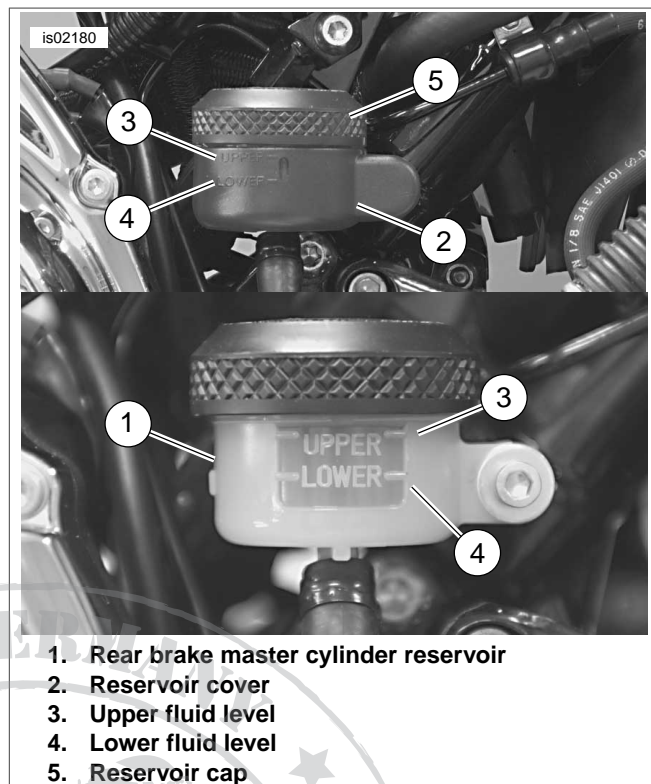

Figure 3. Rear Brake Master Cylinder Reservoir
1. See Figure 3. Remove rear master cylinder reservoir cap (5).
See Figure 3. Reservoir cover (2) may be removed from rear brake cylinder reservoir (1) to more easily verify fluid level in reservoir.
14. Position motorcycle upright (not resting on jiffy stand). See Figure 3. Check brake fluid level in master cylinder. Add enough brake fluid to reservoir until fluid reaches upper fluid level (3). Install master cylinder reservoir cap (5). Replace reservoir cover (2), if removed.